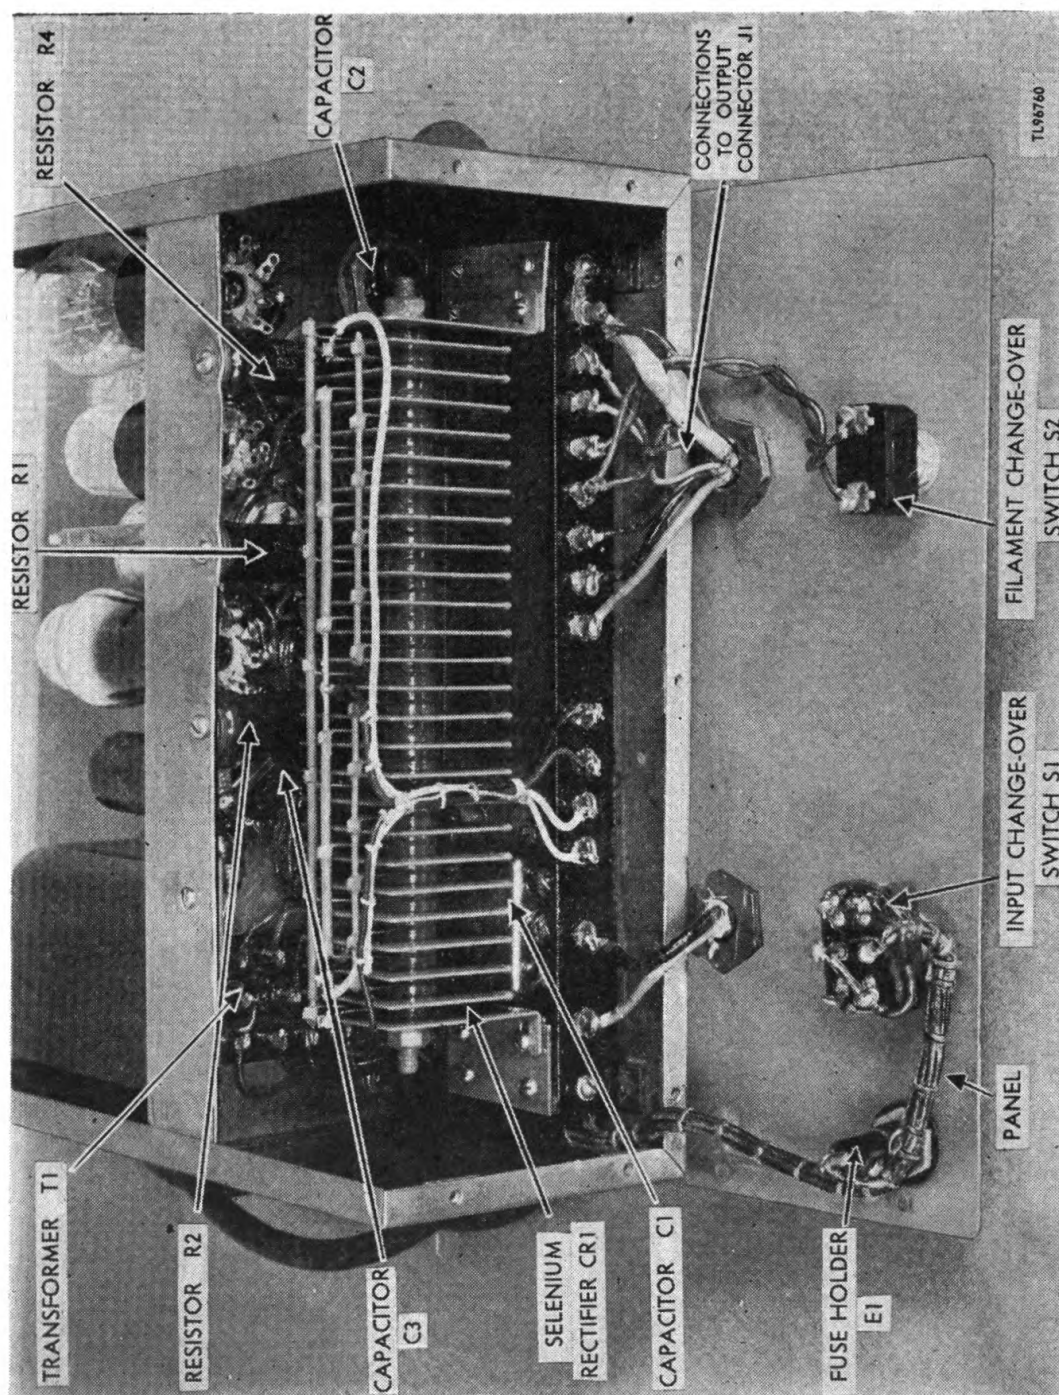

Figure 10. Rectifier chassis with cover and panel removed.
(3) The wiring and mounting of all components may be exposed by removing the chassis cover and panel (fig. 10).
(1) Remove the selenium rectifier from the chassis by unsoldering the connections on the rectifier and loosening the four mounting screws (fig. 10).